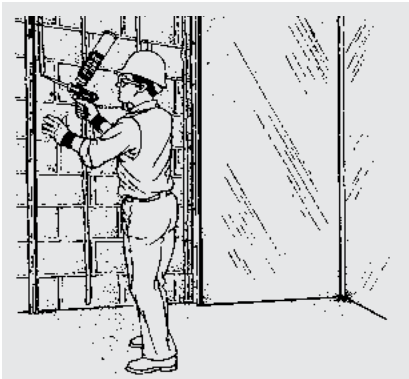

Figure 7
4. Apply beads of DuPont™ Enerbond™ or appropriate construction-grade adhesive to the wall every 16" between PVC base strips (Figure 7).